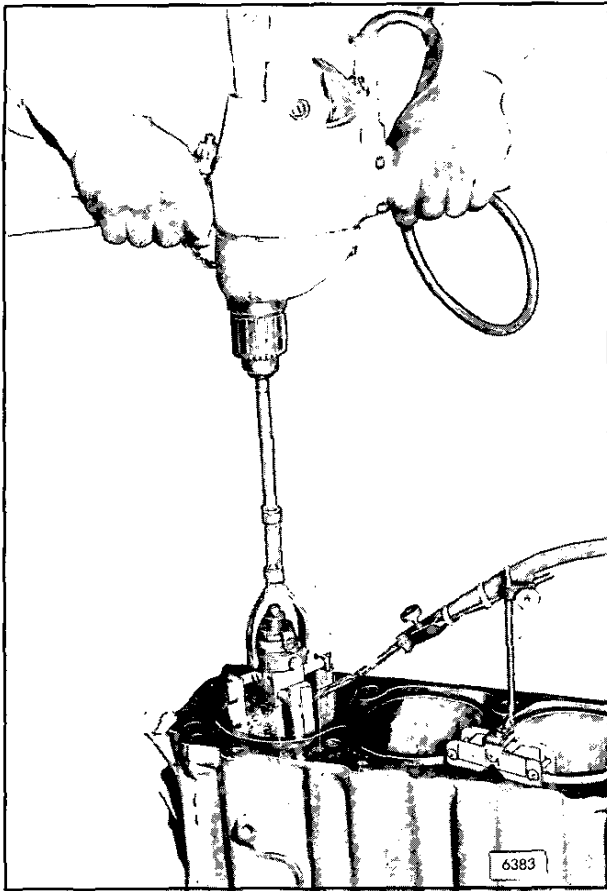

Fig. 5 - Honing Cylinder Block Bore
3. Occasionally stroke all the way to the top of the bore to remove any ring ridge that may be present (approximately four short strokes, then two full strokes (Fig. 5).